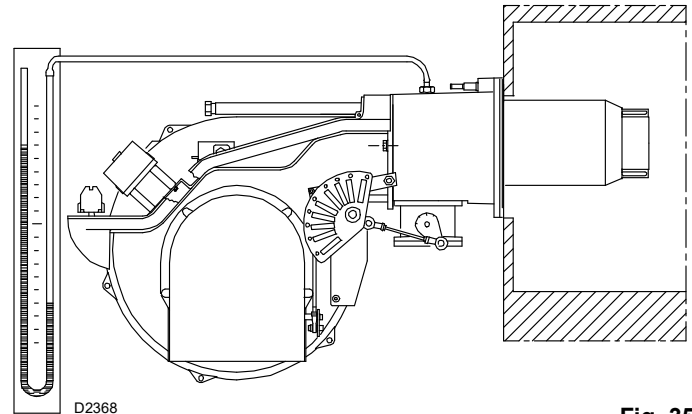

Fig. 35
- Purge the air from the gas line. Fit a U-type manometer (Fig. 35) to the gas pressure test point on the sleeve. The manometer readings are used to calculate the MAX. burner power using the Tab. K.